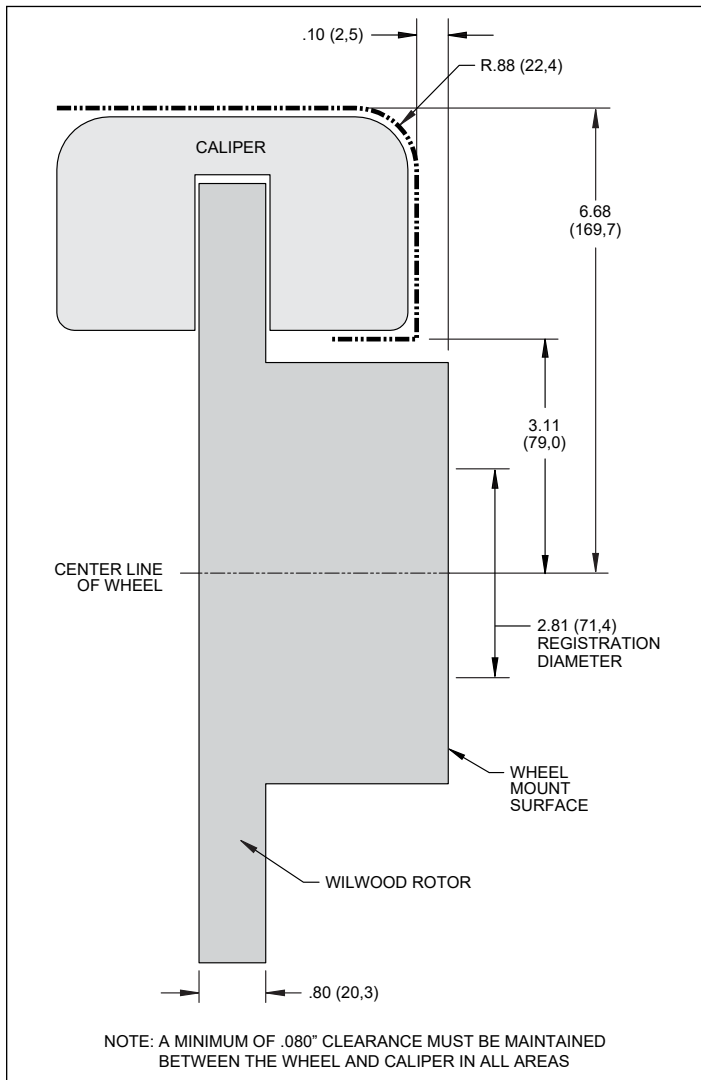

Figure 2. Wheel Clearance Diagram p/n 140-17653
- Review the appropriate wheel clearance diagram for the kit you have purchased (Figures 2 or 3, page 3) to verify that there is adequate clearance with the wheels you will be using with the installation.
Verify your wheel clearance using Figures 2 or 3.